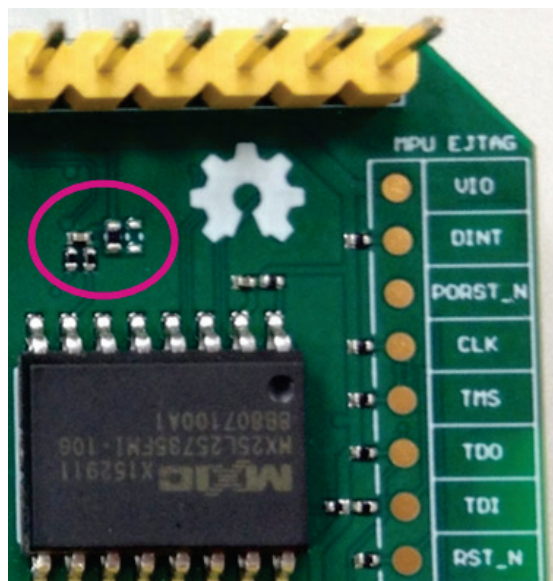

Figure 7 JTAG resistors on LinkIt Smart 7688 Duo bottom view
- 1) Find a group of resistors on the bottom side of LinkIt Smart 7688 Duo (top-right view) as circled in Figure 7.